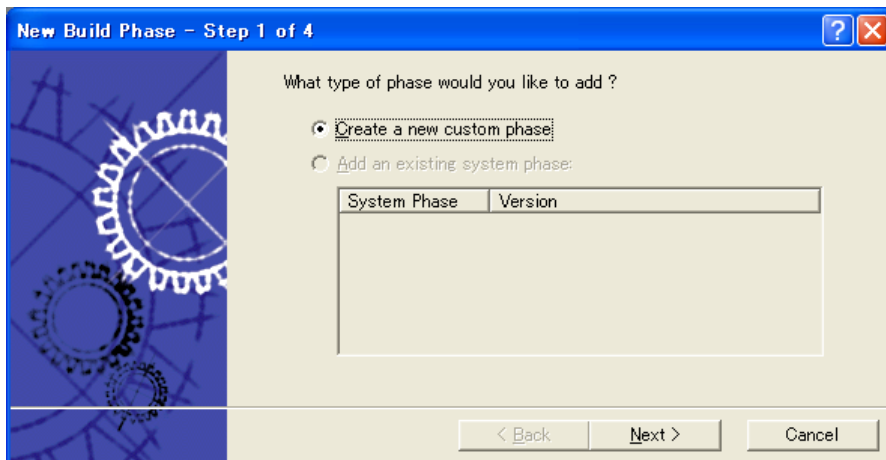

Figure 2 [New Build Phase] Dialog Box (Step 1)
- (2) The dialog box for creating a new build phase is opened (Figure 2).